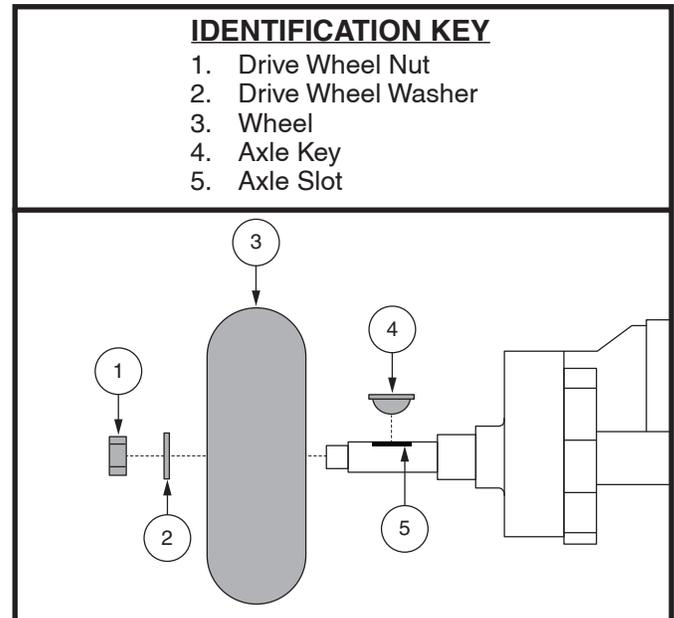

Figure 20. Wheel Replacement
3. Remove the drive wheel nut and washer from the axle. **See figure 20.**